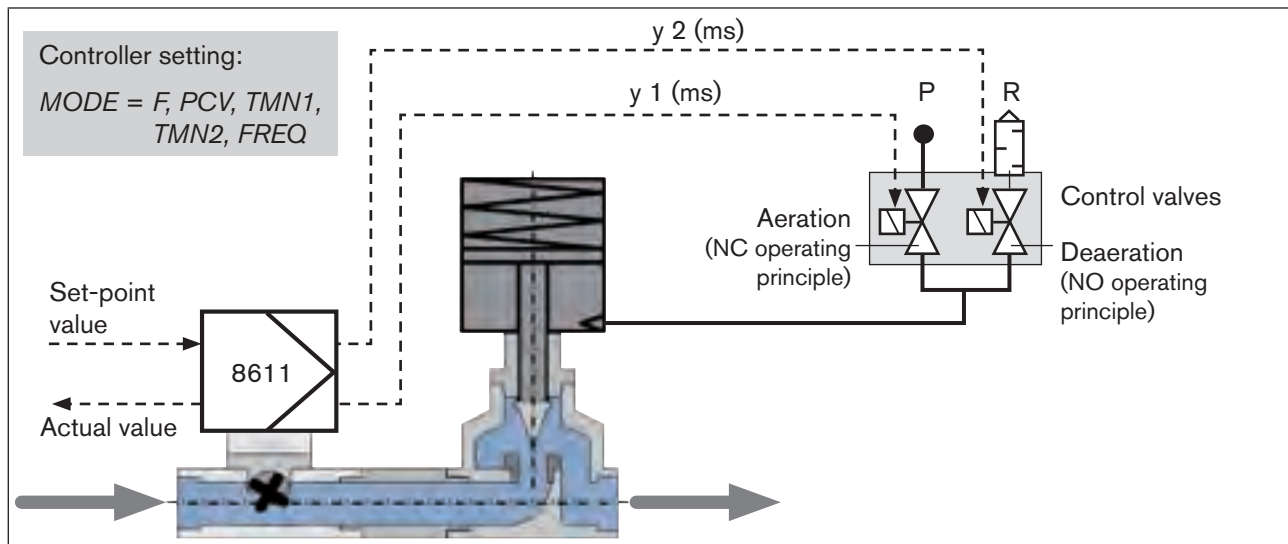

Figure 34: Example of a quasi-continuous control using process valve
**Parameterization:** Single-acting, pneumatically operated control valves with "normal closed" function can be operated. Two control valves are required for the pneumatic control of the process valve (see Figure 34).